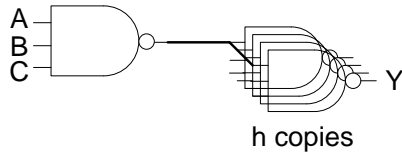

Fig. 14
14. Consider a NAND3 driving h copies of NAND3 as shown in Fig. 14. (5%)